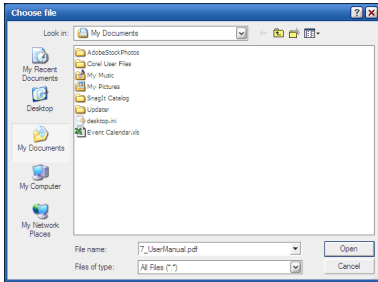

Figure 13—Choose File
1. In the Web Portal, click **Browse** in the Submit New Job area. This opens the Choose File dialog (see Figure 13).